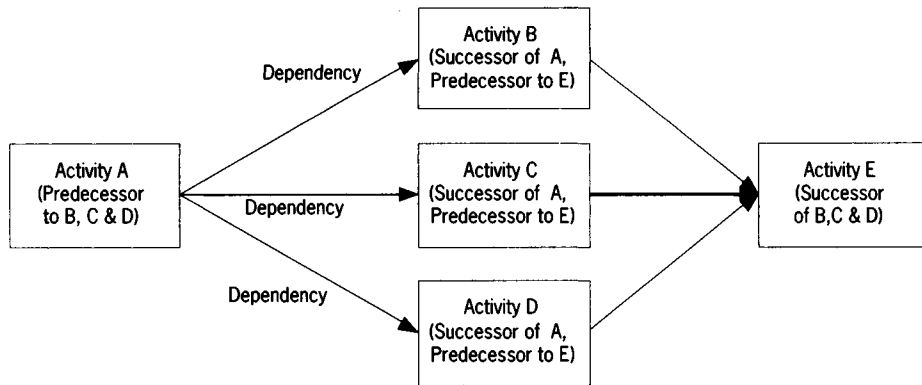
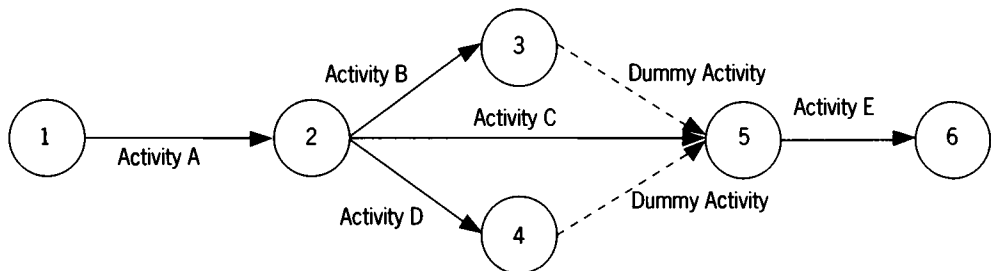

Figure 47 Activity on Node (AON) network diagram (also known as a precedence diagram)
Figure 48 Activity on Arrow (AOA) network diagram (as developed for the PERT/CPM approaches)
Note that the logic of the activities and dependencies in Figures 47 and 48 is identical. AOA 'rules' preclude the use of more than one arrow between any two nodes, so 'dummy' activities are used, in this case to show that Activity E is dependent on B, C and D. The nodes represent nothing other than a status before or after an activity: in the example in Figure 48, (1) is the status before Activity A and (2) is the status when A has been completed. Note that the flow is conventionally from left to right in both types of diagram.